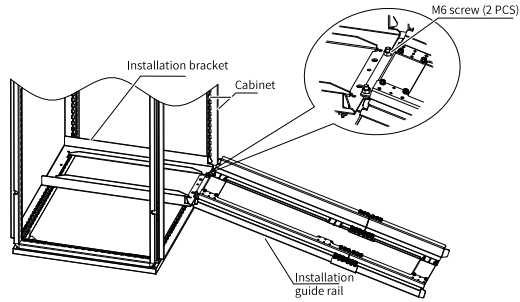

Figure 2-23 Installation of the guide rail in the cabinet
b. Align the two round holes at the front end of the guide rail with the screws of the mounting bracket, and then lock the guide rail to the cabinet with two M6 nuts, as shown in "Figure 2-23 " on page 46 .